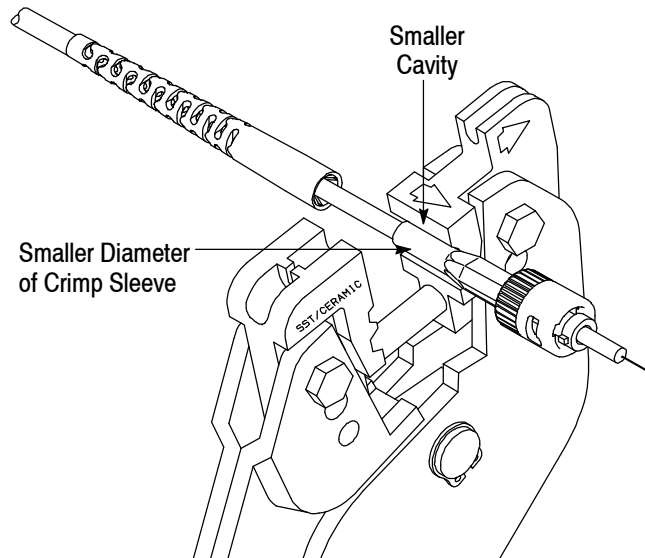

Figure 12
- e. Move the crimping tool to the smaller diameter of the crimp sleeve and, using the smaller cavity of the tool, squeeze the tool handles together until they release. See Figure 12.